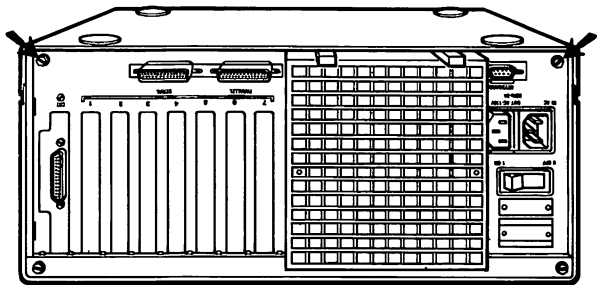

Figure 2-1. Location of bottom cover screws.
1. Carefully turn the processor over and loosen the two screws securing the bottom cover. See Fig. 2-1.